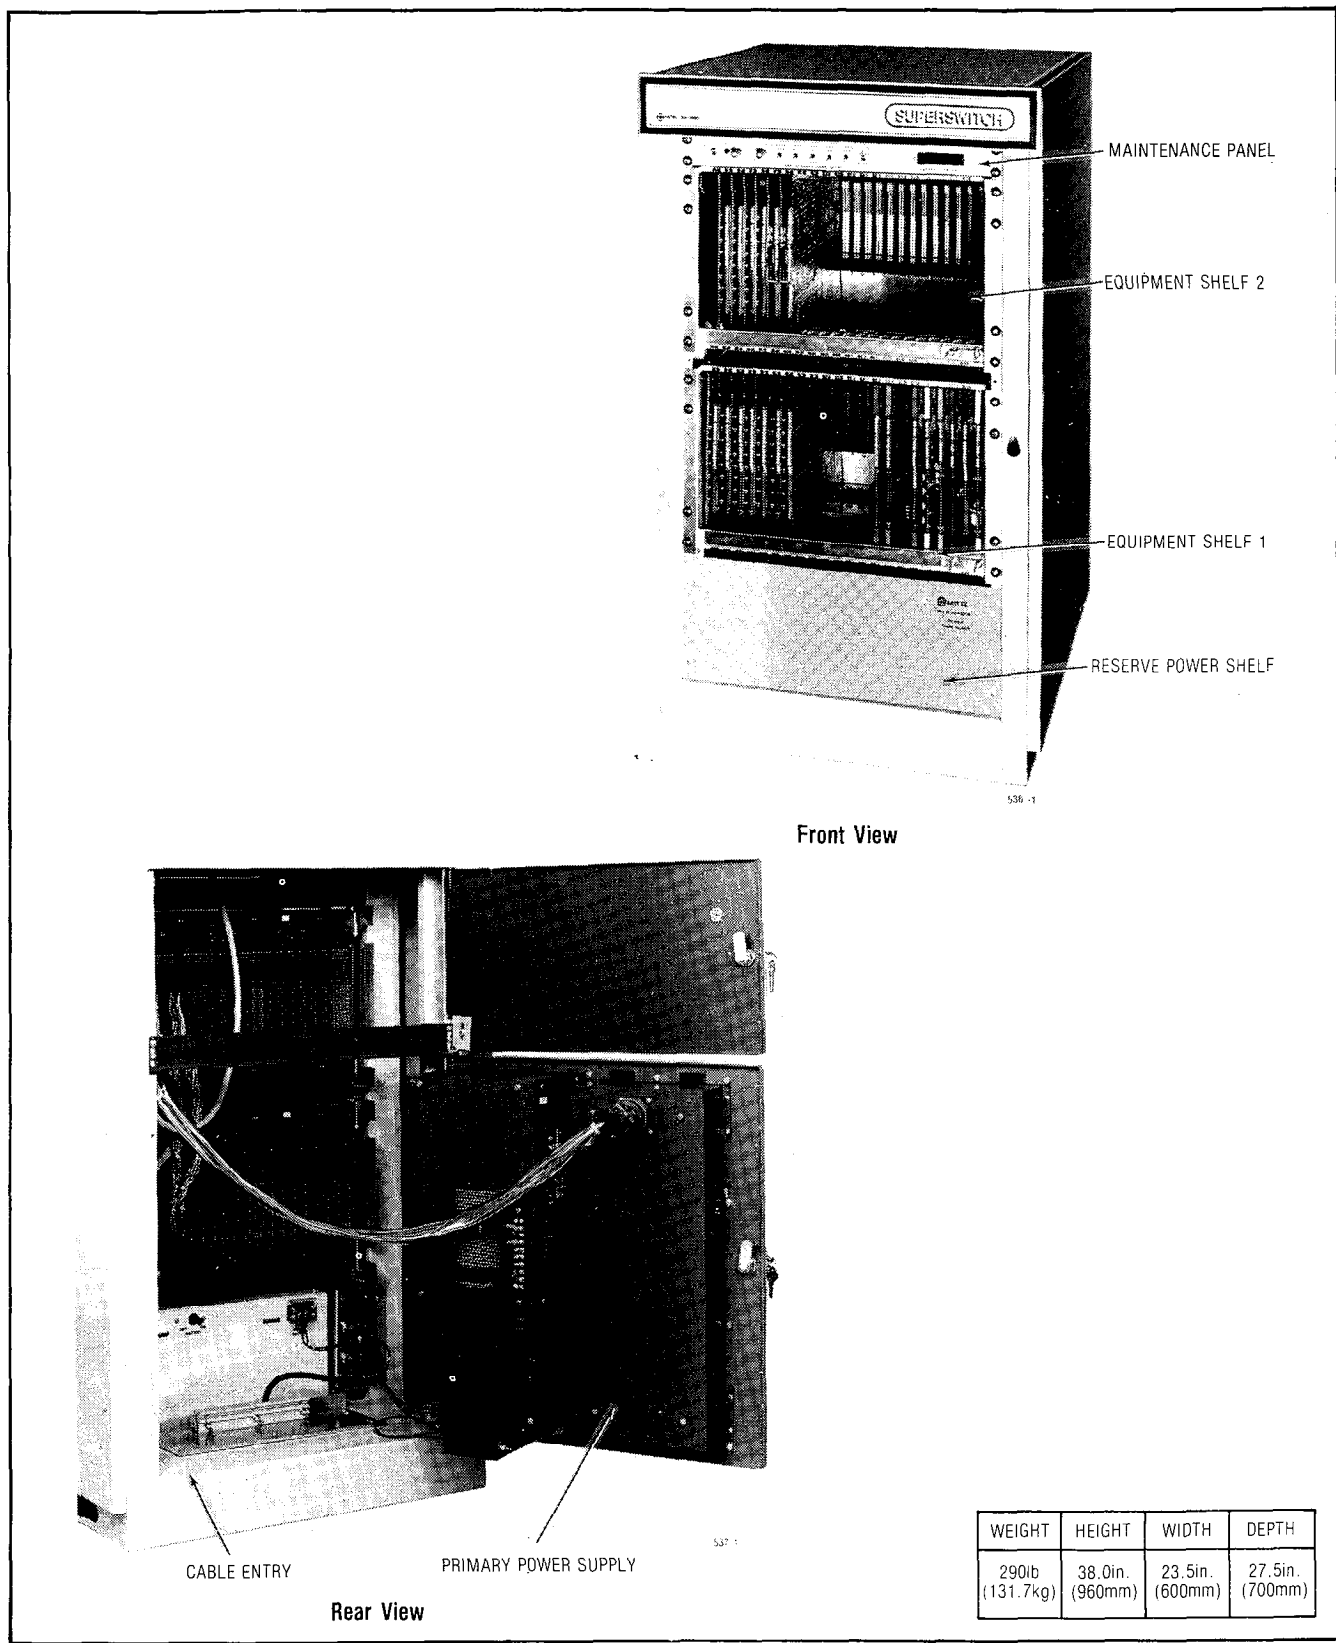

Fig. 4-1 SX-200 Cabinet Layout
4.01 Fig. 4-1 illustrates the SX-200 cabinet layout.